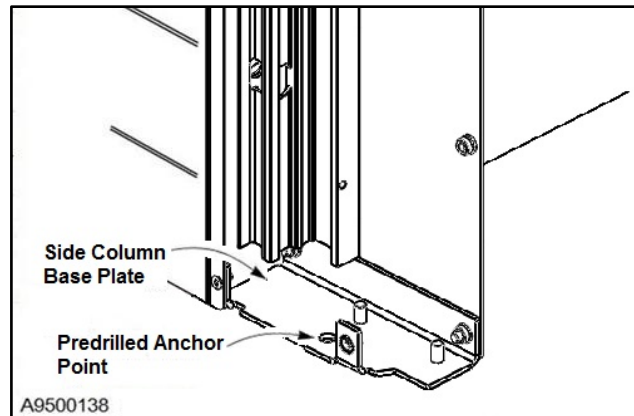

Figure 21
6. Using the predrilled anchor points in the base plate as a reference, mark their location on the floor. (See Figure 21)